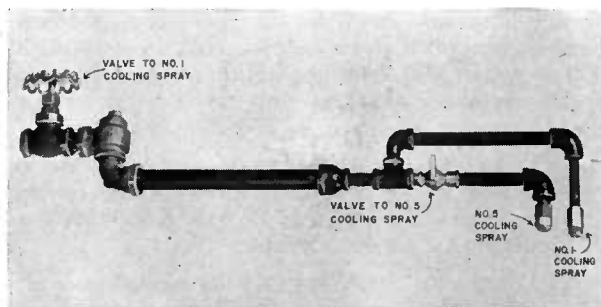

Figure 16.—External cooling sprays.
1. *Open valve to the No. 1 cooling spray quickly and fully to get a fine mistlike spray. (Fig. 16.)*